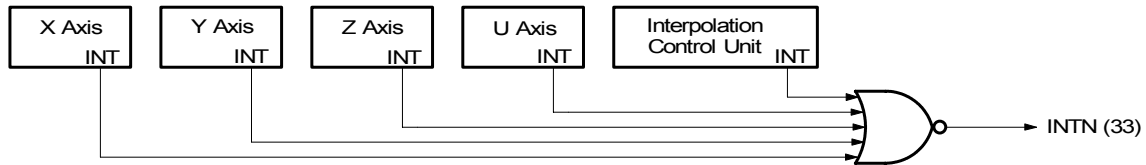

Fig. 2.42 Interrupt Signal Path in IC
There is only one interrupt signal, INTN (33), to the host CPU. So, the signal will be OR calculated, then output, as shown in Fig. 2.42.